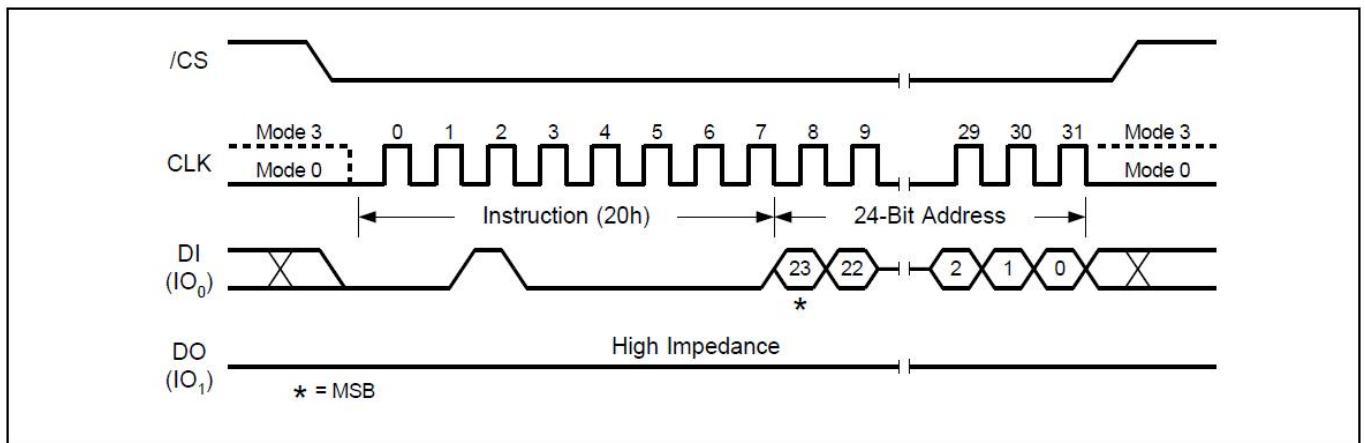

Figure10. Sector Erase Sequence Diagram
The Sector Erase command sequence: CS# goes low → sending Sector Erase command → 3-byte address on DI → CS# goes high. The command sequence is shown in Figure10. CS# must be driven high after the eighth bit of the last address byte has been latched in; otherwise the Sector Erase (SE) command is not executed. As soon as CS# is driven high, the self-timed Sector Erase cycle (whose duration is Tse) is initiated. While the Sector Erase cycle is in progress, the Status Register may be read to check the value of the Write in Progress (BUSY) bit. The Write in Progress (BUSY) bit is 1 during the self-timed Sector Erase cycle, and is 0 when it is completed. At some unspecified time before the cycle is completed, the Write Enable Latch (WEL) bit is reset. A Sector Erase (SE) command applied to a sector which is protected by the Block Protect (SEC, TB, BP2, BP1, and BP0) bit (see Table 1-6) is not executed.